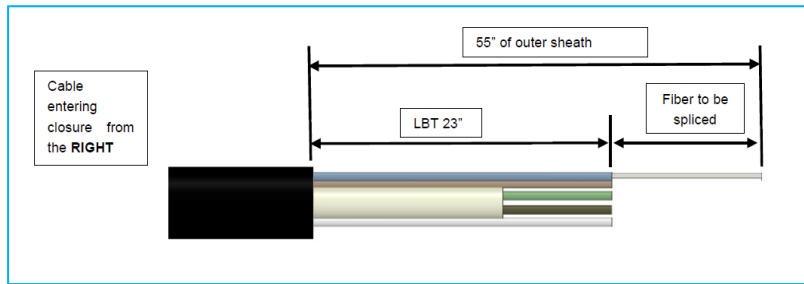

Figure 5
5.1.3.8 If cable enters closure from the right, mark buffer tube **23"** from sheath opening, ring cut and remove tubing. See Figure 5.